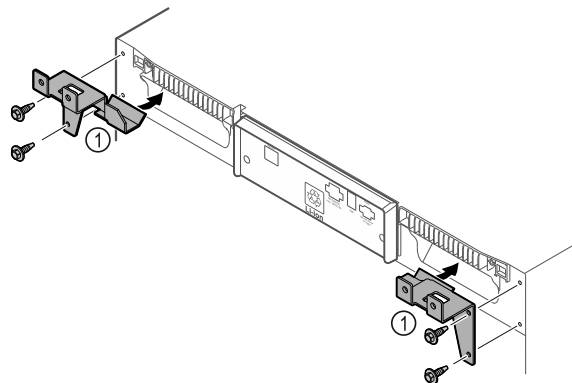

Fig. 10
- ▶ Mount retaining parts *Fig. 10 (1)* on the appliance using the screws supplied.